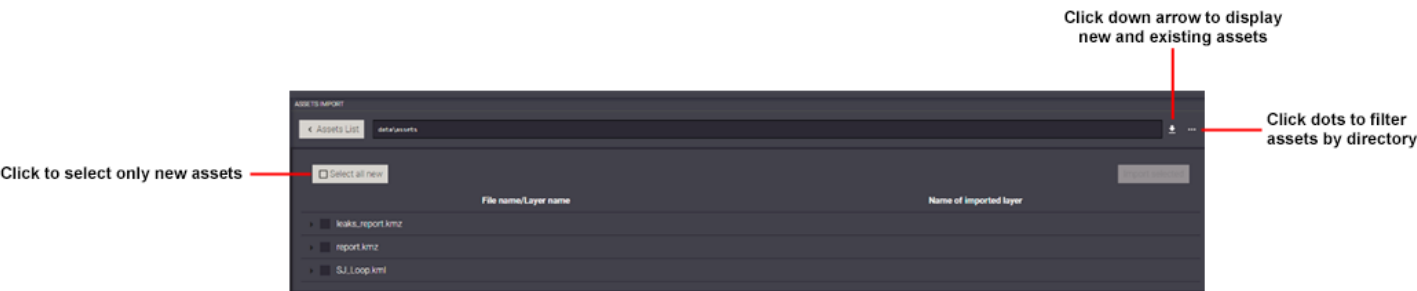

Figure 56 Assets Import Screen
On the sidebar, select **Assets List** (see Figure 8), then click the **Assets Import** button to access the *Assets Import* screen (Figure 56).
- 2 If you want to change the directory to import assets from, click the three dots (Figure 56), then navigate to the location of the desired directory.
- 3 Click the down arrow on the right side of the screen to search the directory for asset files (KML, KMZ, SHP) (see Figure 56).